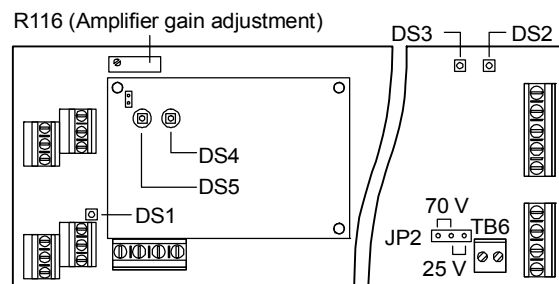

Figure 19: SIGA-AA30 or SIGA-AA50 Audio Amplifier
4. Adjust R116 to 25 VRMS or 70 VRMS (Figure 19).